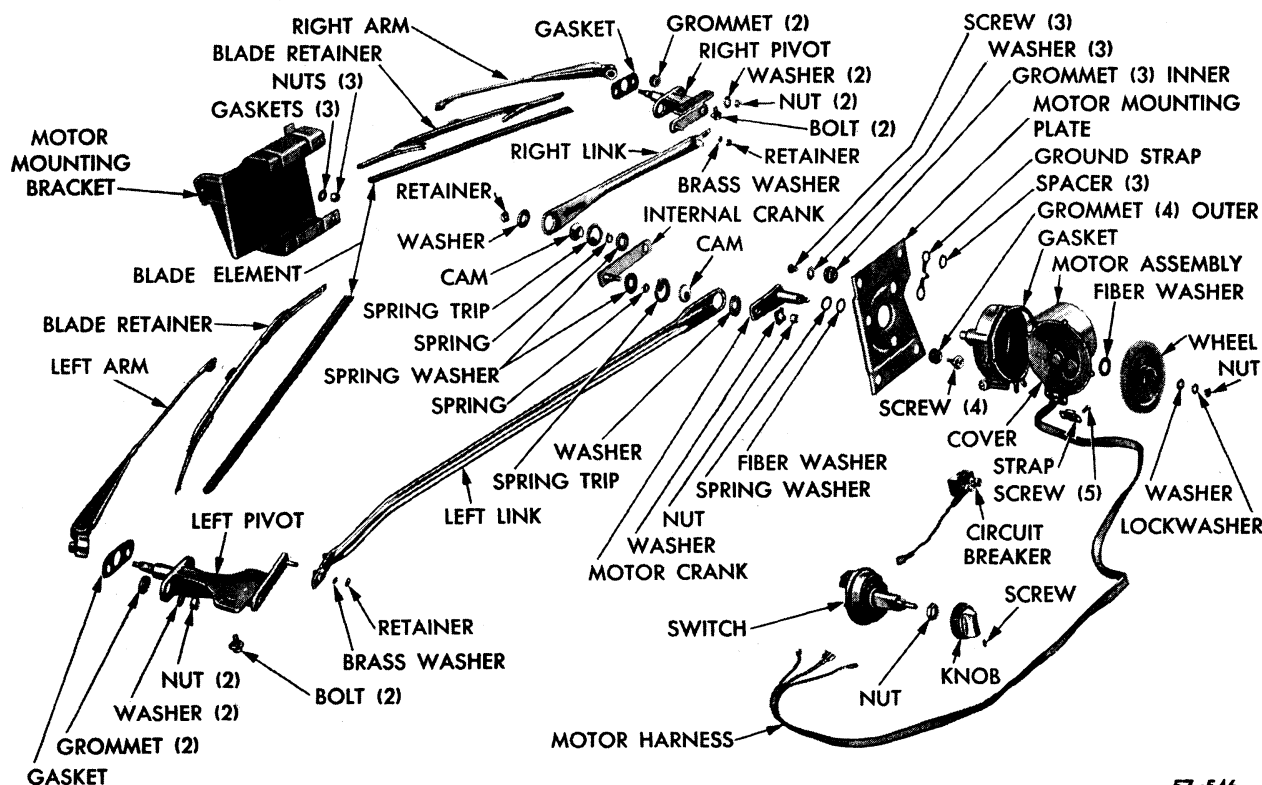

Fig. 41—Windshield Wipers (Disassembled)
67. REMOVAL DISASSEMBLY AND ASSEMBLY OF VARIABLE SPEED WINDSHIELD WIPERS (Fig. 41)
b. Disassembly of Windshield Wiper Link (Fig. 41)